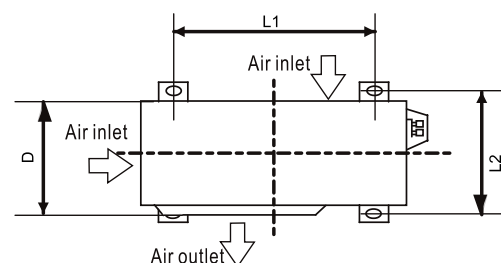

Fig.6-4
- The minimum distance between the outdoor unit and obstacles described in the installation chart does not mean that the same is applicable to the situation of an airtight room. Leave open two of the three directions (L1,L2) (Refer to Fig.6-4)